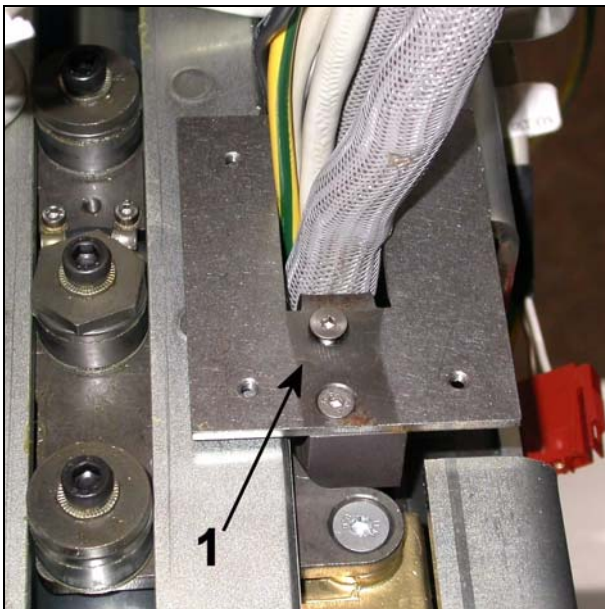

Fig. 19
- Unscrew the cable guide (1/Fig. 19).